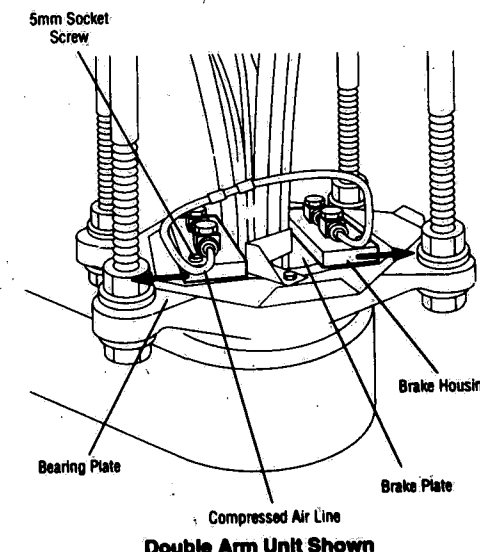

Figure 3-7. Brake Housings - Internal Rotational Stop "B"
3. Slide brake housing(s) away from brake plate (see Figure 3-7), leaving compressed air lines connected (if applicable).